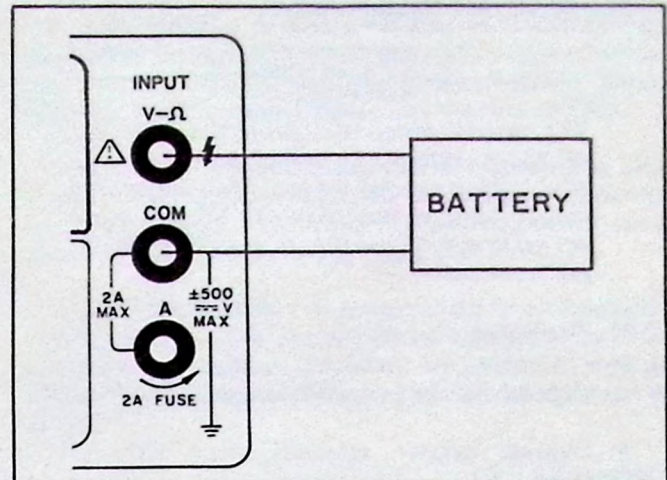

Figure 3-4. DC Voltage Measurements.
- Connect test leads from the Multimeter V Ω (high) and COM (low) terminals to the voltage under test as shown in Figure 3-4.